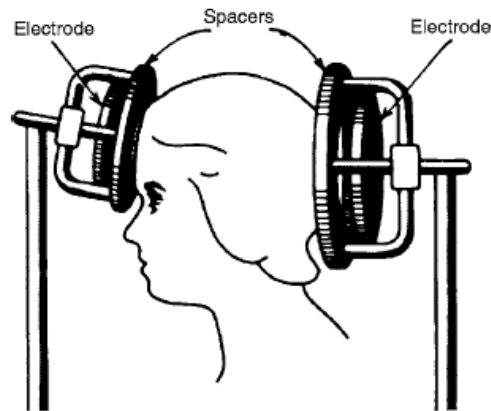

Fig.1. Location of capacitive coupling electrodes for short wave diathermy of the head.
- ❖ In the capacitance coupling method of short wave diathermy, the tissue to be heated is placed between two capacitor plates that have an oscillating electric field across them (Fig. 1).